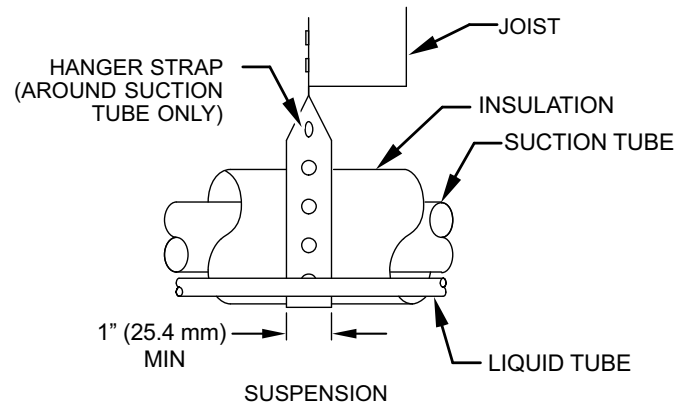

Fig. 1 – Connecting Tubing Installation
9. When passing refrigerant tubes through the wall, seal opening with RTV or other pliable silicon-based caulk (see Fig. 1).
11. Do not suspend refrigerant tubing from joists and studs with a rigid wire or strap which comes in direct contact with tubing (see Fig. 1).
13. When necessary, use hanger straps which are 1 in. (25 mm) wide and conform to shape of tubing insulation. (See Fig. 1)